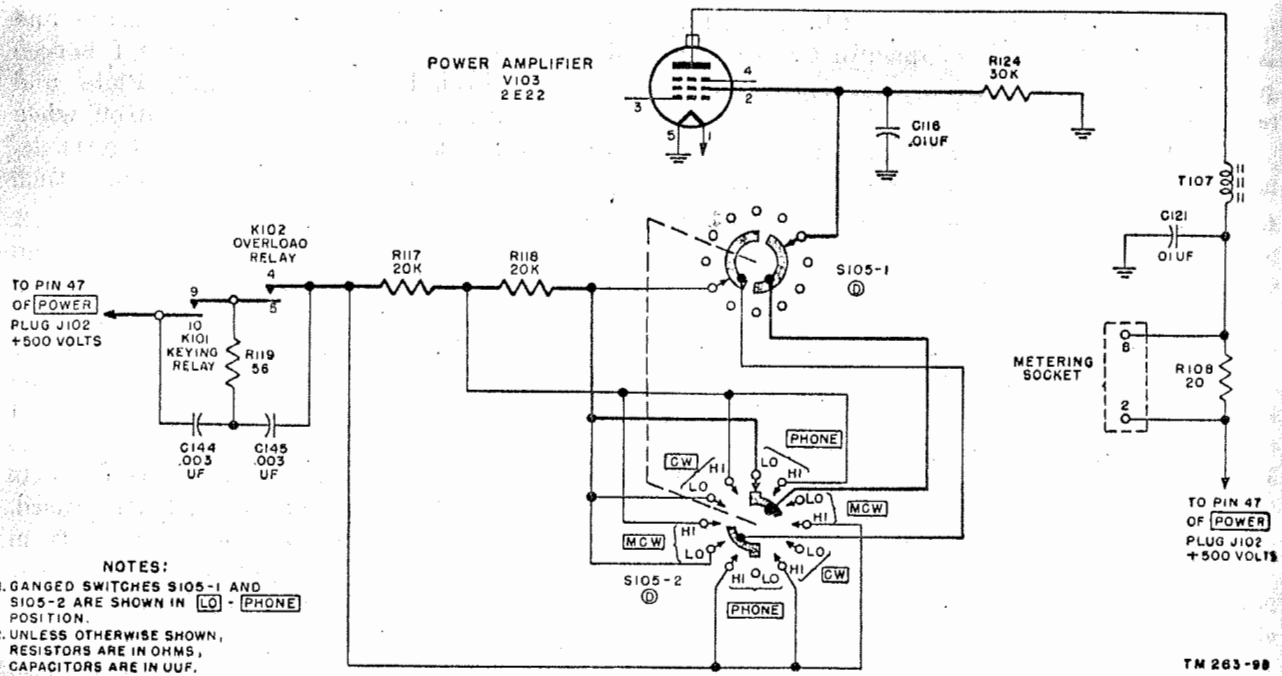
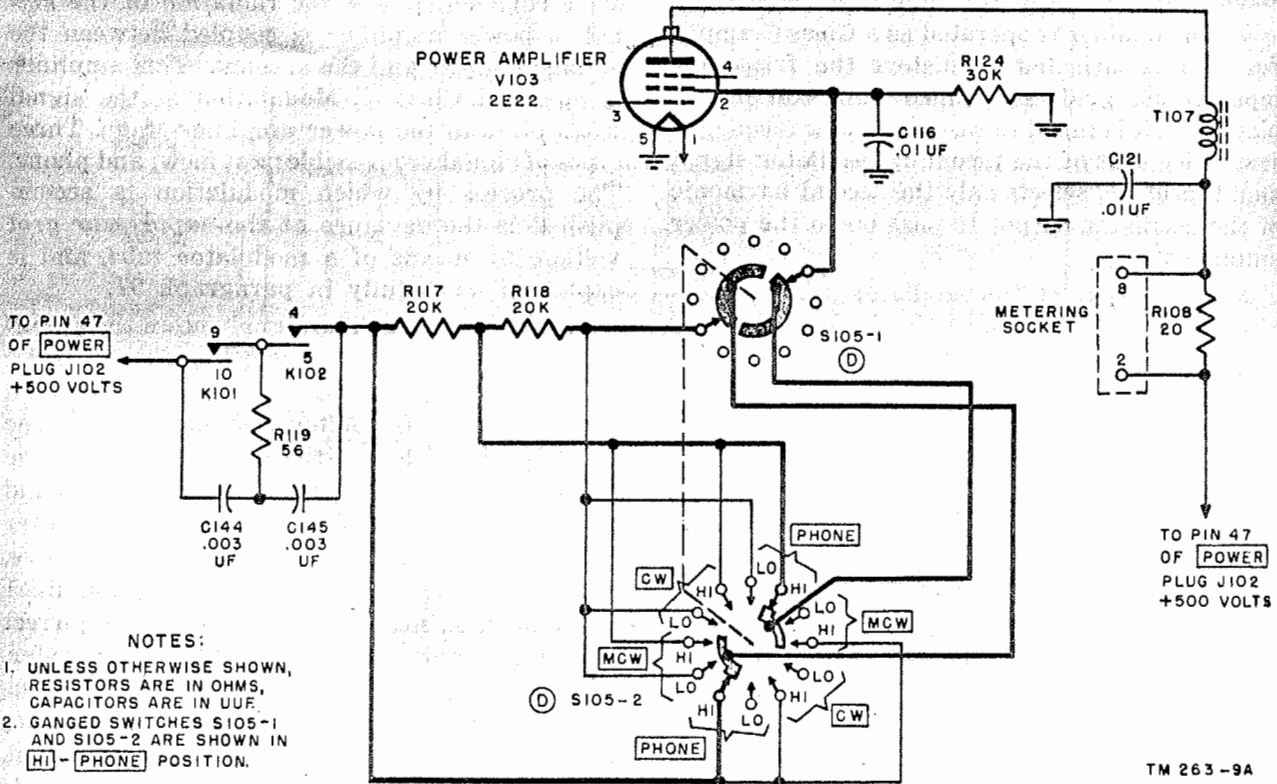

Figure 74. Power amplifier screen grid circuits arranged for LO (low) power operation.
Figure 75. Power amplifier screen grid circuits arranged for HI (high) power operation.
(fig. 74).
d. **SCREEN GRID CIRCUIT, HI AND LO POWER** (fig. 74).
- (1) The power output of the power amplifier is controlled by varying the screen grid voltage. R124, the screen grid bleeder, stabilizes the screen grid voltage. There are two possible levels of output; HI and LO power, and these are selected by switches S105-1 and S105-2, control \odot . If the weighted line in figure 74 is followed from the screen grid, pin 2 of V103, it will be seen that the screen current passes through S105-1 and S105-2 to the series combination of resistors R117 and R118, and then to the power supply through the contacts of relays K102 and K101. This series arrangement of the two resistors is the LO power circuit since the screen of V103 is at a low potential because of the large drop across the series combination of R117 and R118. When HI power output is desired, ganged switches S105-1 and S105-2 are turned to HI and R117 is then placed in parallel with R118 (fig. 75). There is less voltage drop across the parallel combination than the series combination and thus the screen grid has more voltage placed upon it. The screen grid voltage de-
- (2) As soon as the key is pressed down, a small signal current starts to flow in the power amplifier grid circuit, causing coil K102A to be energized and contacts 4 and 5 to close. Because coil K102B had already been energized and the iron core magnetized when the key was up, it is possible for the signal current through K102A to be only a very small value to close contacts 4 and 5. Therefore, more rapid keying is allowed since, almost immediately upon key closure, coil K102A has enough energy to close the power amplifier screen grid circuit.
- (3) If coil K102A had to magnetize the iron core from a point of zero magnetism, there would be an appreciable time lag until the current through K102A became great enough to produce a magnetic field strong enough to close contacts 4 and 5.
A. ARC SUPPRESSION. When the contacts of relays K101 and K102 open, arcs are formed which create r-f disturbances, called *key-clicks*, in addition to damaging the contacts. These arcs can not be eliminated but the length of their duration with each opening of the contact can be shortened considerably by means of a suitable filter or arc suppression circuit. This is the function of capacitors C144 and C145 and resistor R119 (fig. 75).